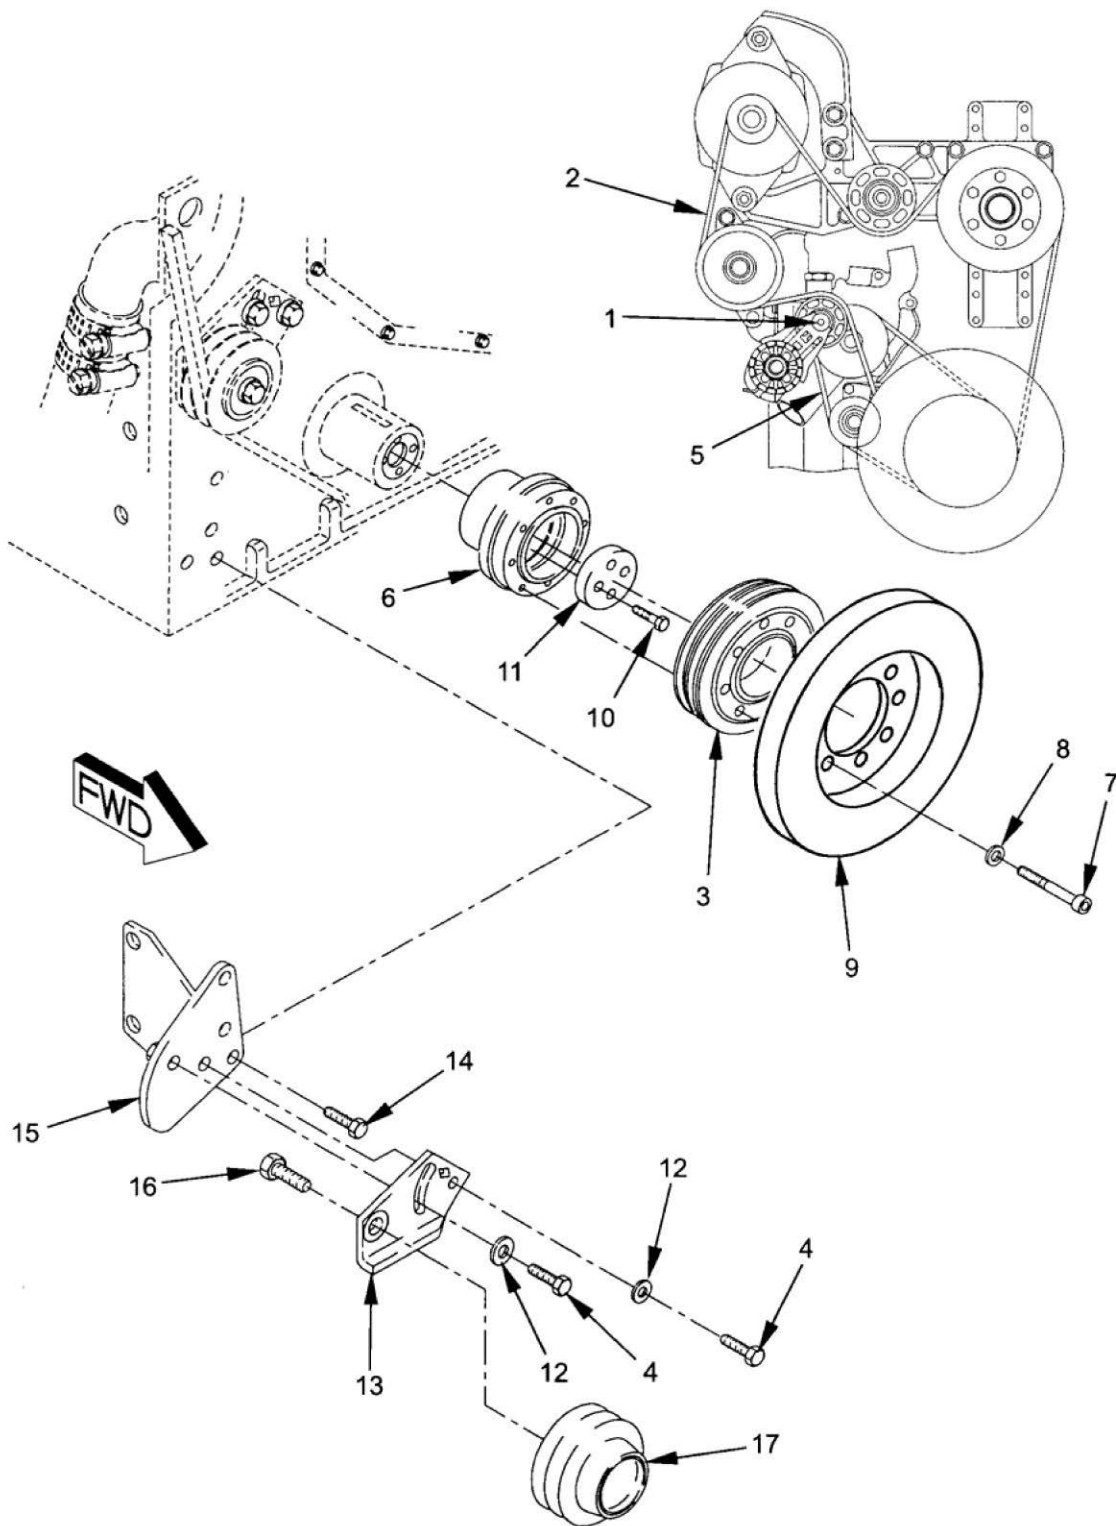

Figure 1. Crankshaft Pulley and Damper.
1. Use a wrench to rotate tensioner pulley (Figure 1, Item 1) clockwise (CW) to relieve tension on alternator belt (Figure 1, Item 2) and remove belt from damper pulley (Figure 1, Item 3).
2. Loosen two screws (Figure 1, Item 4) to relieve tension on water pump belt (Figure 1, Item 5) and remove water pump belt from crankshaft pulley (Figure 1, Item 6).
3. Remove eight bolts (Figure 1, Item 7), washers (Figure 1, Item 8), damper (Figure 1, Item 9), and damper pulley (Figure 1, Item 3).
4. Remove four screws (Figure 1, Item 10), retaining plate (Figure 1, Item 11), and crankshaft pulley (Figure 1, Item 6).
5. Remove two screws (Figure 1, Item 4), washers (Figure 1, Item 12), and belt adjusting arm (Figure 1, Item 13).
6. Remove three screws (Figure 1, Item 14) and bracket (Figure 1, Item 15).
7. Remove screw (Figure 1, Item 16) and idler pulley (Figure 1, Item 17).
1. Apply grease to bearings in idler pulley (Figure 1, Item 17). Install idler pulley (Figure 1, Item 17) on belt adjusting arm (Figure 1, Item 13) with screw (Figure 1, Item 16).
2. Install bracket (Figure 1, Item 15) and three screws (Figure 1, Item 14).
3. Install belt adjusting arm (Figure 1, Item 13), two washers (Figure 1, Item 12), and two screws (Figure 1, Item 4), but do not tighten screws (Figure 1, Item 4).
4. Install crankshaft pulley (Figure 1, Item 6), retaining plate (Figure 1, Item 11), and four screws (Figure 1, Item 10). Torque screws (Figure 1, Item 10) to 130-165 lb•ft (175-225 N•m).
5. Install damper pulley (Figure 1, Item 3), damper (Figure 1, Item 9), eight washers (Figure 1, Item 8), and eight bolts (Figure 1, Item 7). Torque bolts (Figure 1, Item 7) to 33-47 lb•ft (45-65 N•m).
6. Position water pump belt (Figure 1, Item 5) on crankshaft pulley (Figure 1, Item 6) and idler pulley (Figure 1, Item 17). Tighten tension on belt adjusting arm (Figure 1, Item 13) and tighten two screws (Figure 1, Item 4). Torque two screws (Figure 1, Item 4) to 43-51 lb•ft (58-69 N•m).
7. Use a wrench to rotate tensioner pulley (Figure 1, Item 1) clockwise (CW), position alternator belt (Figure 1, Item 2) on damper pulley (Figure 1, Item 3) and tensioner pulley (Figure 1, Item 1), and slowly release tensioner pulley (Figure 1, Item 1).